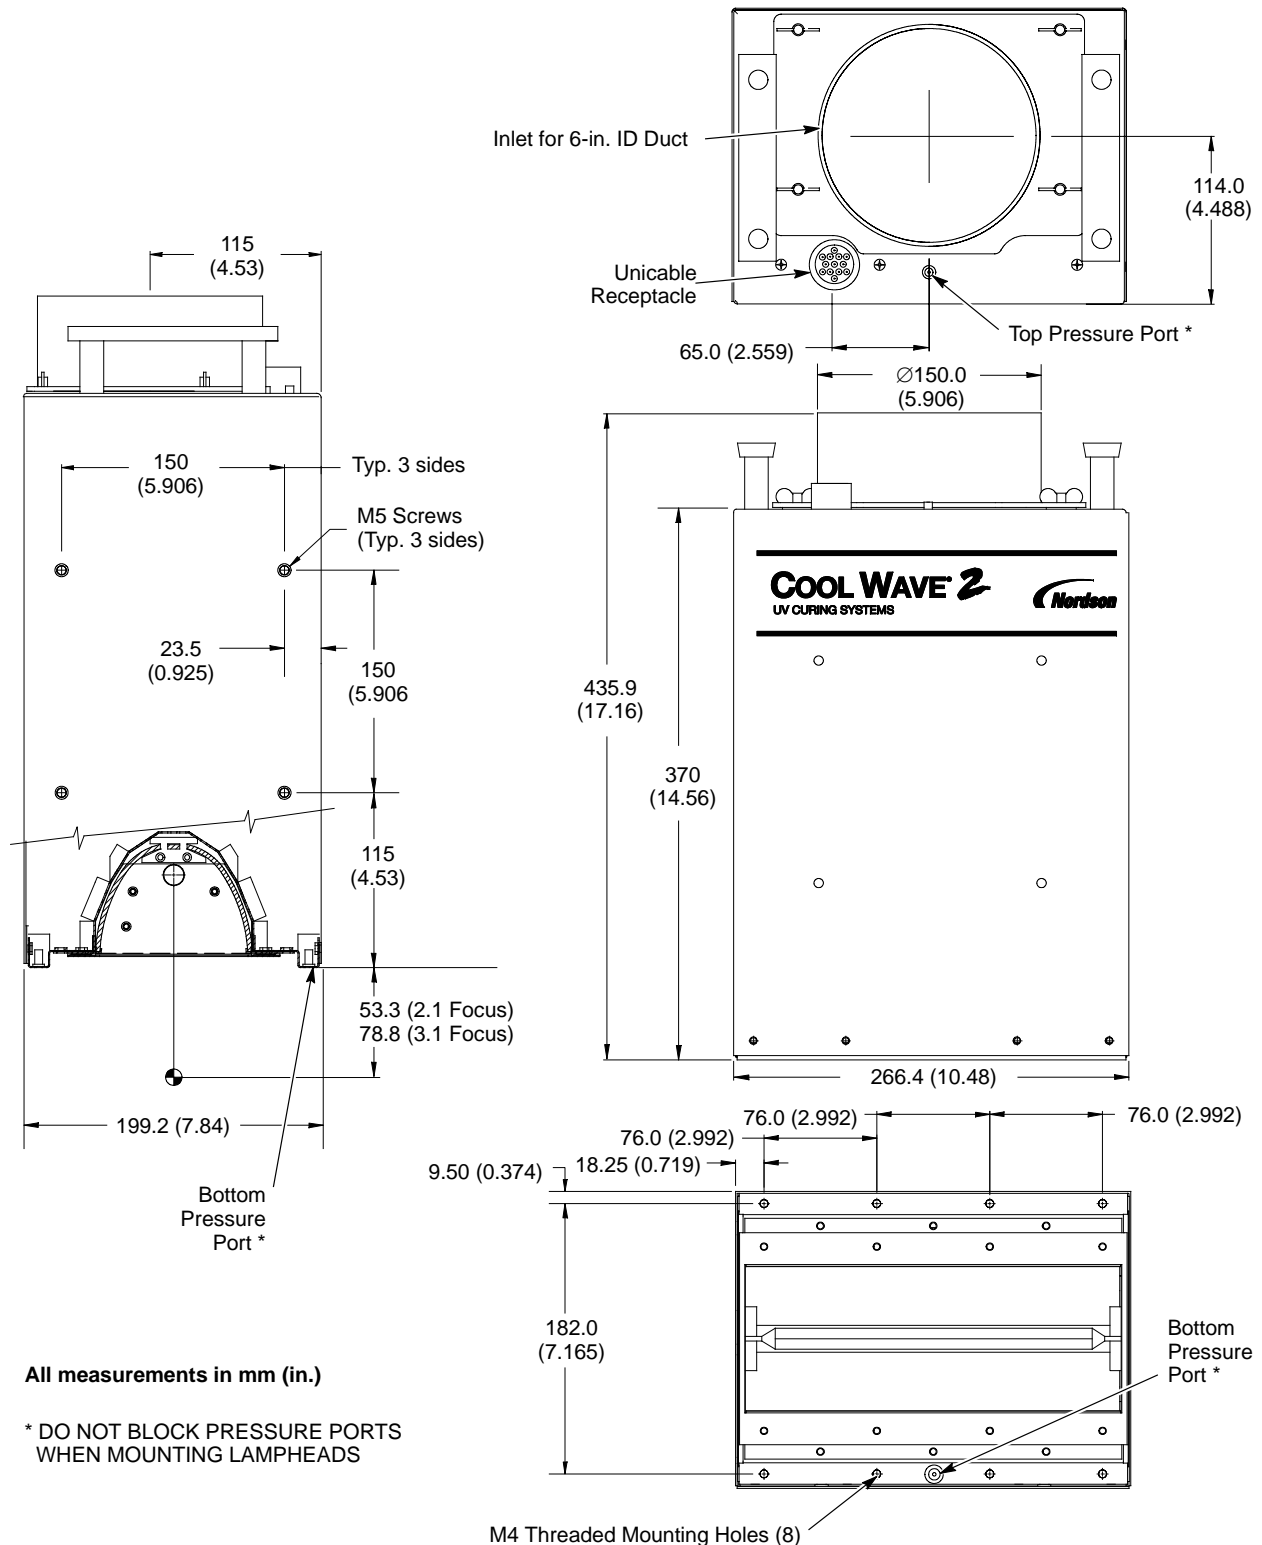
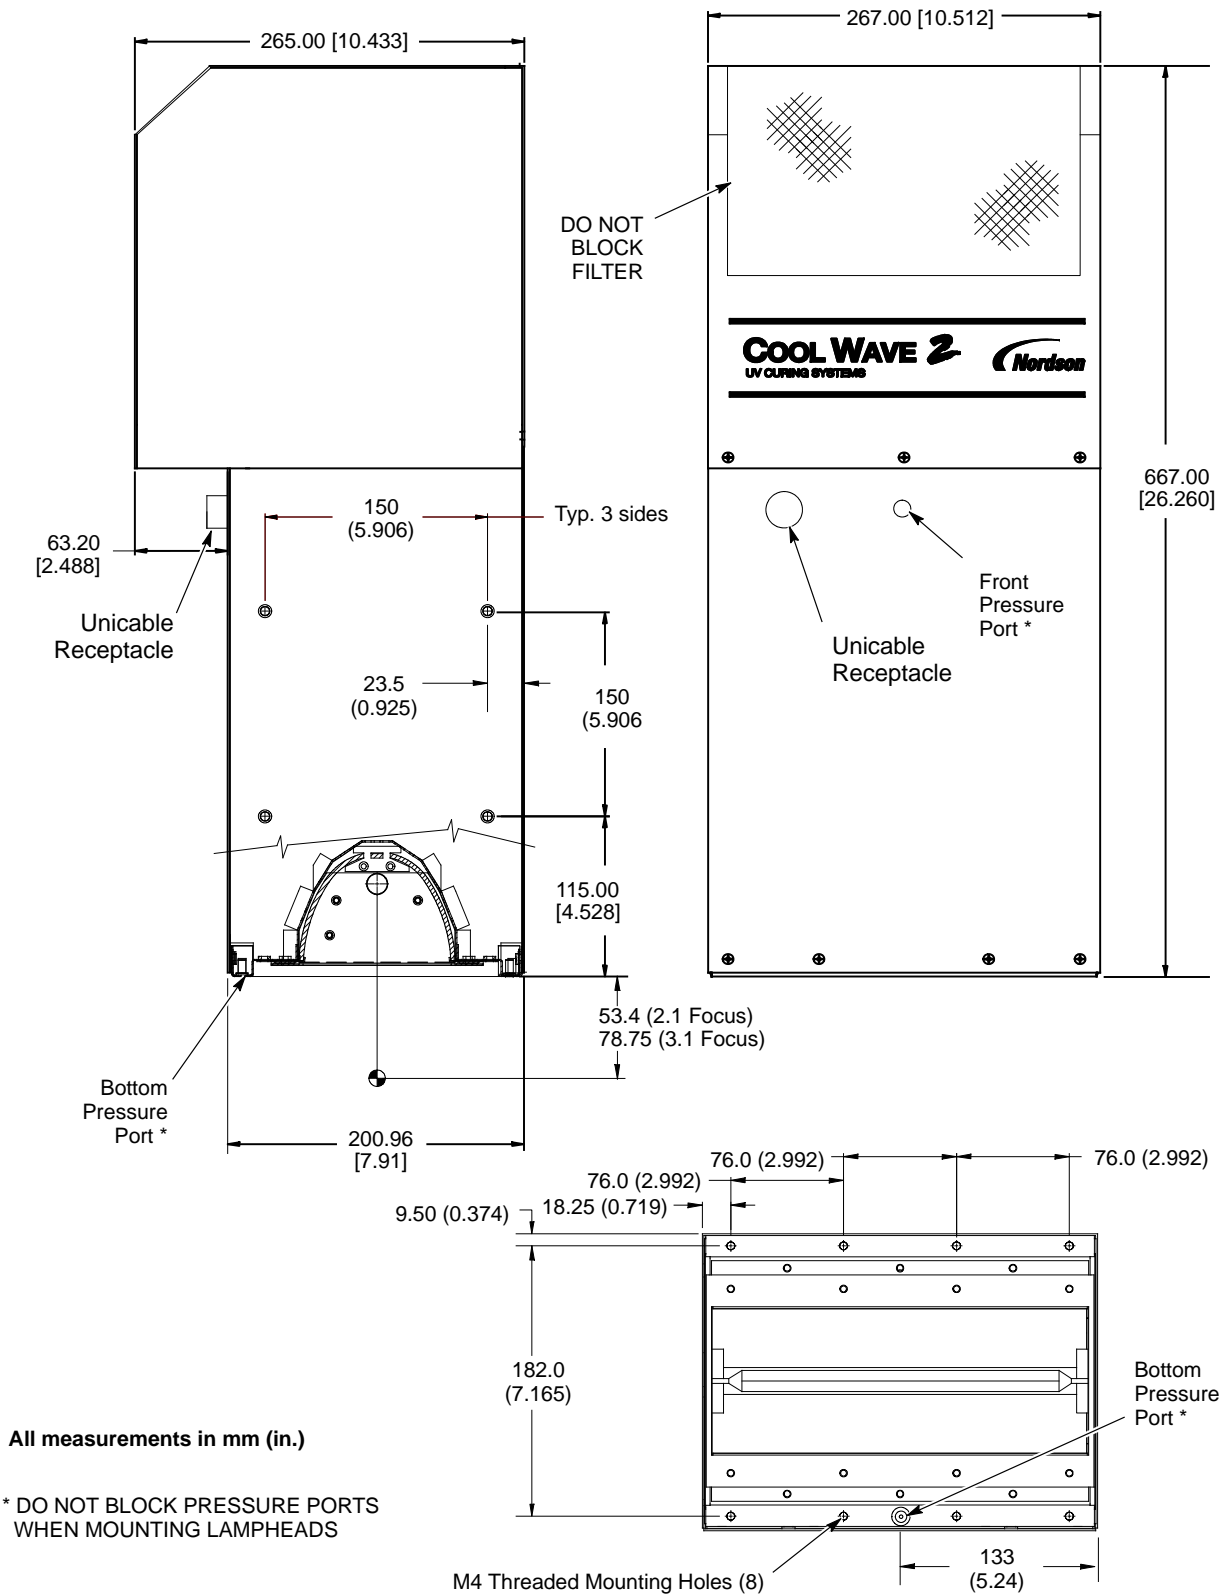
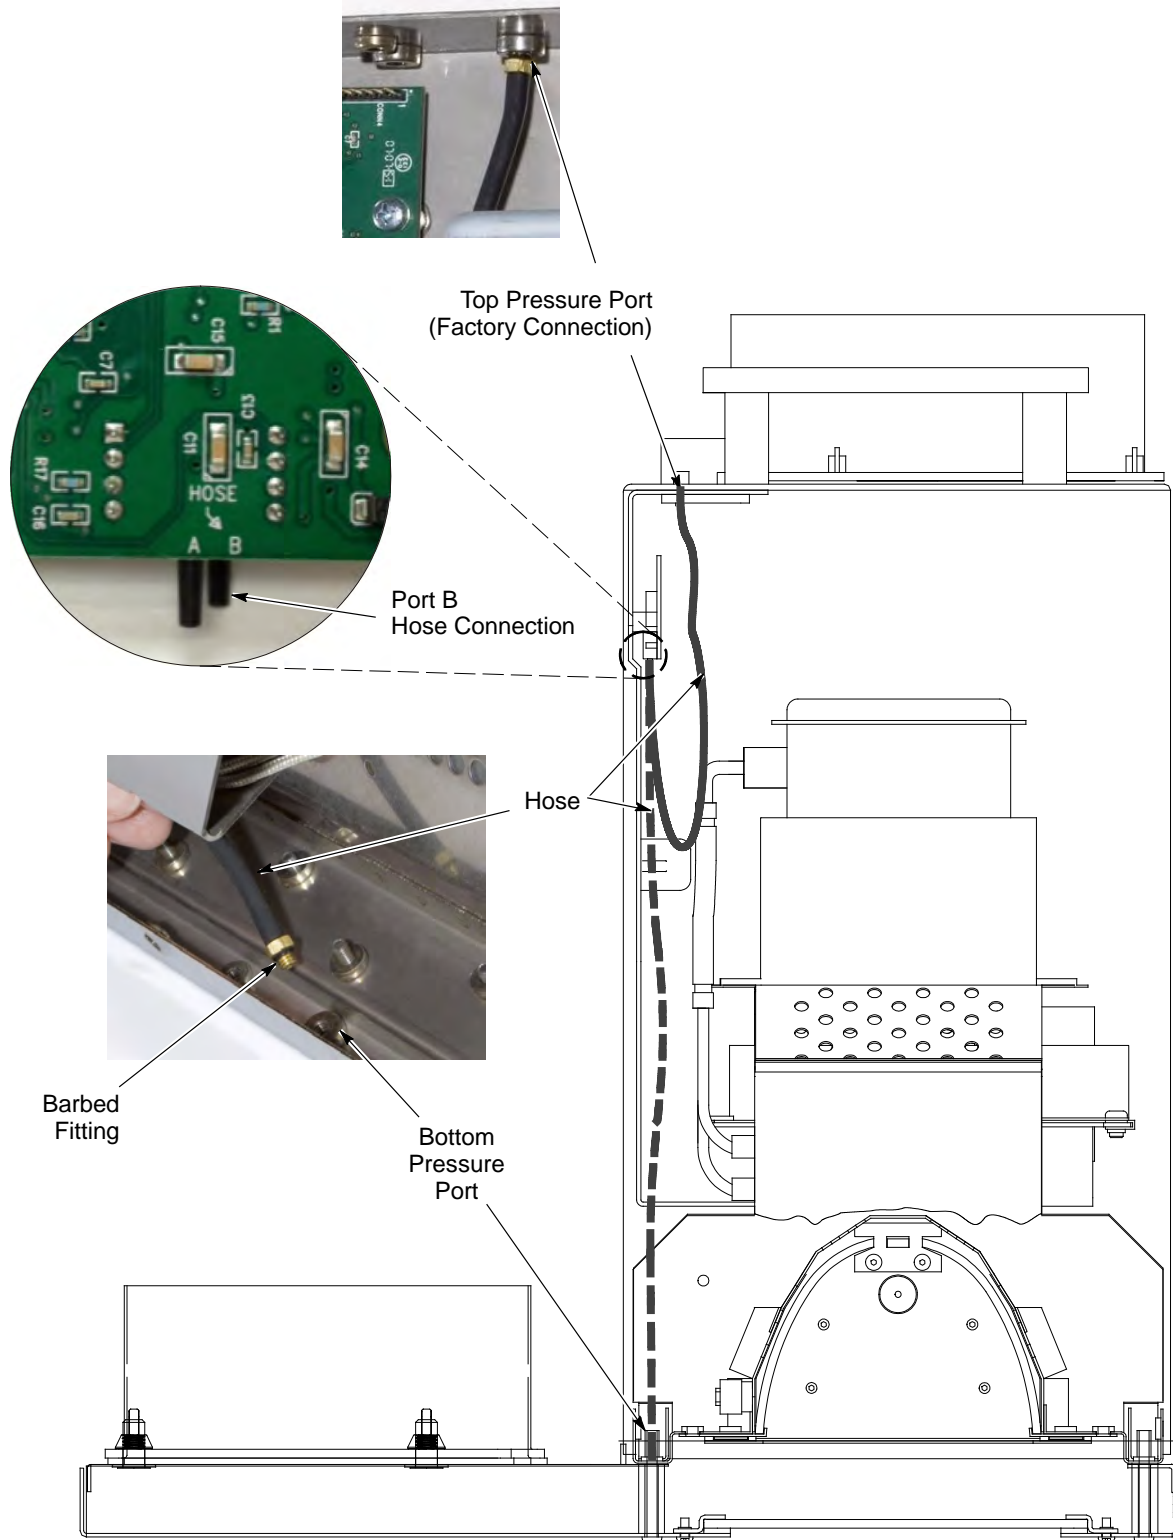

Figure 3-9 Lamphead Dimensions - External Blower Version
Figure 3-10 Lamphead Dimensions - Internal Blower
Figure 3-13 Pressure Port Connections - External Blower Version
Figures 3-9 and 3-10 provide the physical dimensions of the CW-2 lampheads. See page 2-5 for focal lengths. Install lampheads with focus reflectors so that the base is positioned as follows:
See Figures 3-13 and 3-14. The lamphead pressure sensor on the light detector board is connected by a hose to atmosphere at the top/front or bottom pressure port. (See Figures 3-9 and Figure 3-10 for the location of the pressure ports on internal and external blower versions.) **The hose must be connected to Port B on the board, as shown.**
1. See Figures 3-13 and 3-14. Remove the lamphead cover.